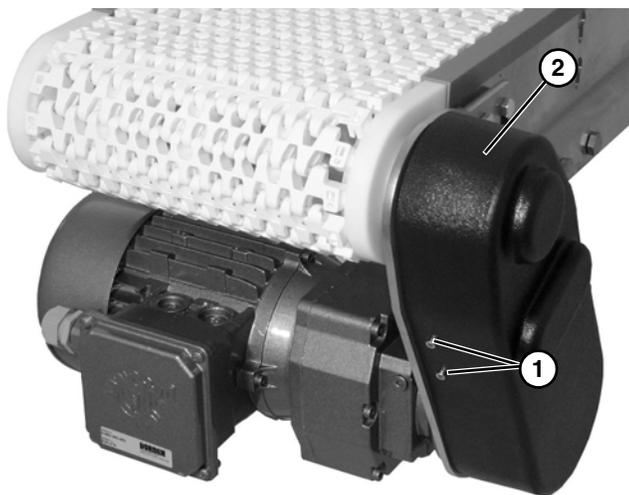

Figure 11
1. Remove four screws (**Figure 11, item 1**) and remove cover (**Figure 11, item 2**).
5. Install cover (**Figure 11, item 2**) with four screws (**Figure 11, item 1**).